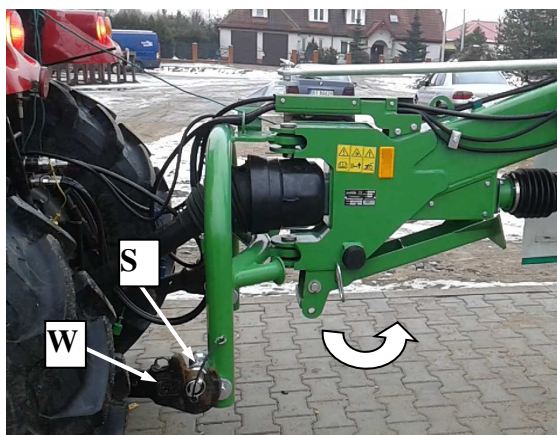

Fig. 8. Rake mounted on tractor
- ❑ The rake should be attached to a tractor with use of tractor's lower pull-cables as provided in **Fig. 8**. For this purpose drive the tractor at the rake's catch, and then place hangers **W** of tractor's lower pull-cables on pins **S** on the rake's linkage.
- ❑ Once the rake is mounted turn support leg back (**Fig. 8**).
- ❑ Connect telescopic articulated shaft. If need be shorten the shaft as per item 5.4.